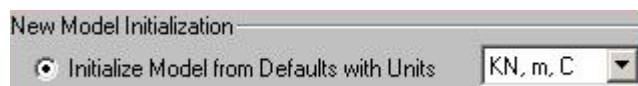

Figure 1
b) Basic Units: If you are starting a new model, choose the **Initialize Model from Defaults with Units** you want to use (Fig1). The units used to start a model become the basic units for that model. All material constants and dimensions such as modulus of elasticity, length, area, moment of inertia... should be defined compatible with the basic units. It is possible, however, to use the Units drop-down list on the status bar located at the lower right of the window to change the units at any time.